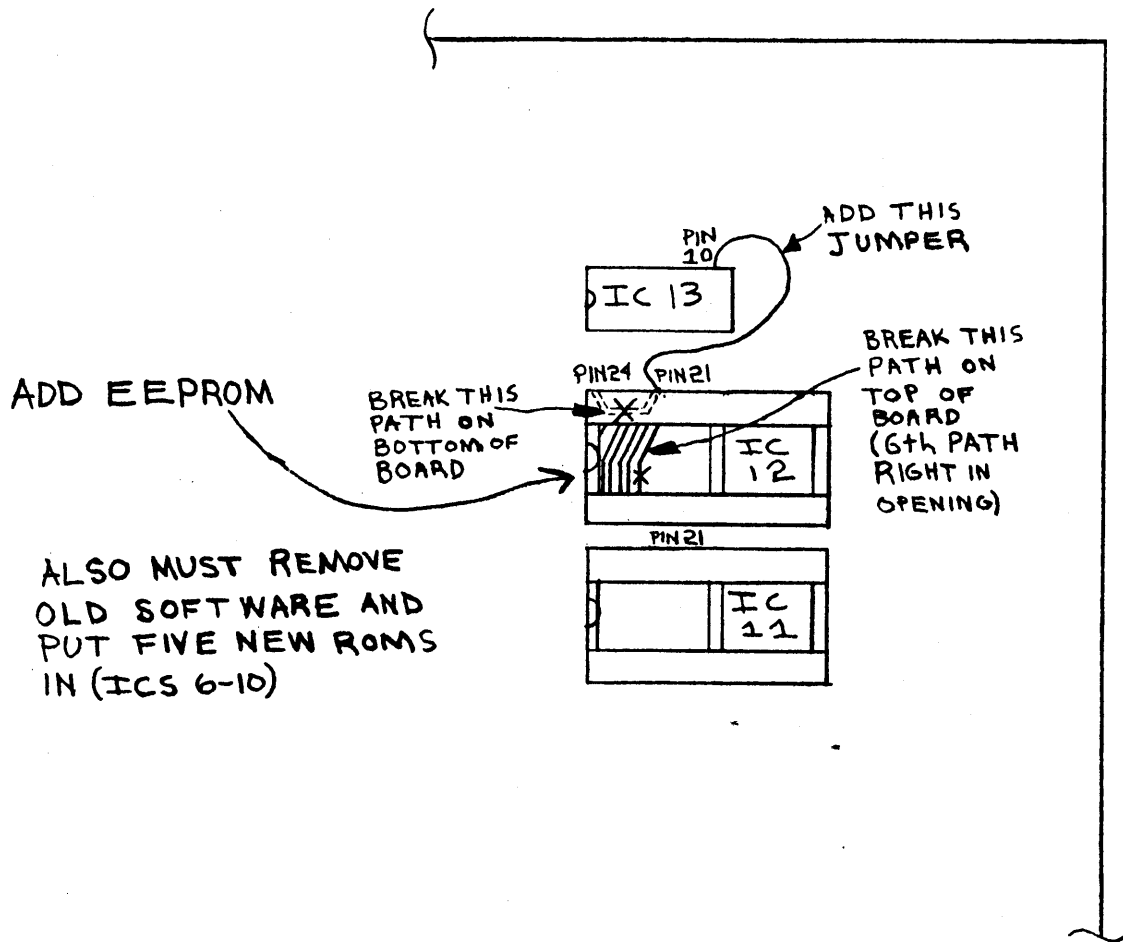

Figure 14. IC12 Modification Details
- () Refer to Figure 14 and use the hobby knife to cut through the path on the bottom of the circuit board that connects pins 21 and 24. Open a 1/16" gap in the path.
- () Refer to Figure 14. Looking at the top of the board at the socket for IC12, notice that many parallel circuit board paths may be seen through the square holes in the middle of the socket. Locate the 6th path from the left inside edge of the left socket hole. Mark this path with a felt-tip pen. Notice that the first path is partially covered by the socket - count carefully! Use the hobby knife to cut through the sixth path. Be very careful to avoid cutting through any other circuit board paths. Open a 1/16" gap in the path.
- () Refer to Figure 14 and locate pin 21 of IC 12 and pin 10 on IC13 (immediately to the rear of IC12).